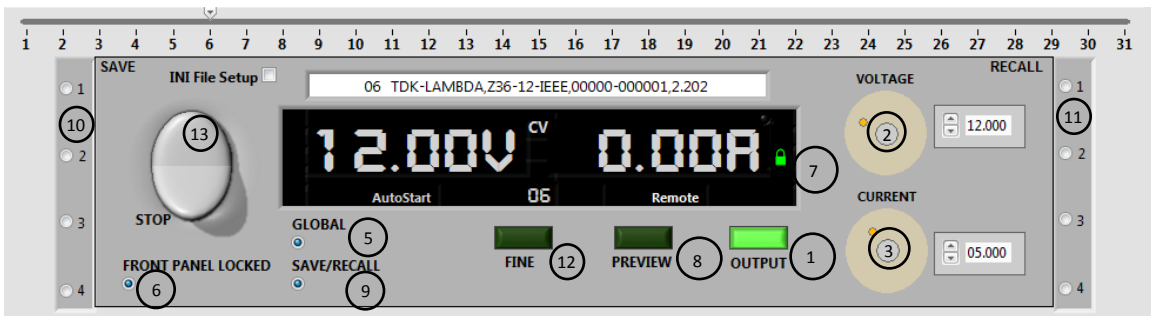
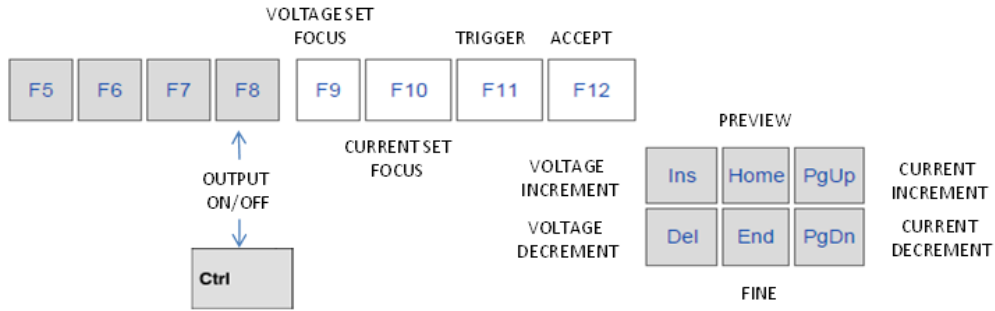

Figure 6 Virtual Front Panel
Figure 7 Keyboard key
1. The Virtual Front Panel (VFP) is an interface which shows the present power supply status on the display and allows changes to the output parameters by OUTPUT button (1), Voltage (2) and Current Encoders (3). Refer to Figure 6
2. To allow Global Commands for output, voltage, and current, select Global Enable button (5).
3. Select Front Panel Locked button (6) to prevent occasionally status change via interactive controls. Lock indicator (7) on display appears.
4. In PREVIEW (8) mode the voltage and current values are accepted when the center of the encoder is clicked.
5. Select SAVE/RECALL button (9) to allow SAVE (10) and RECALL (11) main parameters by selection properly button. For parameter list Refer to table 5-7 in Z+ User Manual
6. Keyboard Keys. Refer to Figure 7:
8. Press Stop (13) switch to stop application properly. Refer to Figure 6